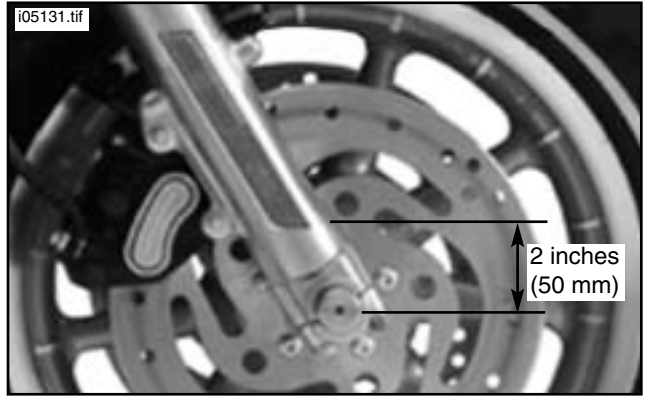

Figure 2. Reflector Placement
8. **FLHTC/I models:** See Figure 2. Remove the adhesive backing and install a reflector (H-D Part Number 59481-00) on the right side fork slider as shown. The bottom of the reflector should be two inches (50 mm) above the center of the axle. Press the reflector firmly in place to activate the adhesive.